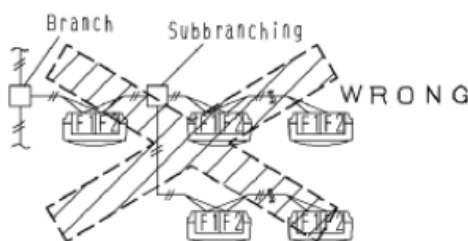

Fig. 16
4. Up to 16 branches are possible for unit-to-cabling. No branch is allowed after first branch. See Figure 16.